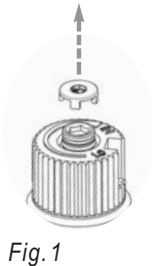

Fig.1
- 10) Remove the black protection cap by hand from the hi-low knob (Fig.1).